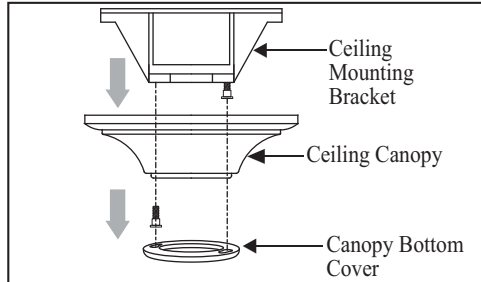

Figure 4
1. Remove the decorative canopy bottom cover from the canopy by turning the cover counter clockwise. (Figure 4)
2. Remove the mounting bracket from the canopy by removing the 1 of 2 screws from the bottom of the mounting bracket and loosening the other one a half turn from the screw head. Next, turn the canopy counter clockwise to removing the mounting bracket from the canopy. (Figure 4)